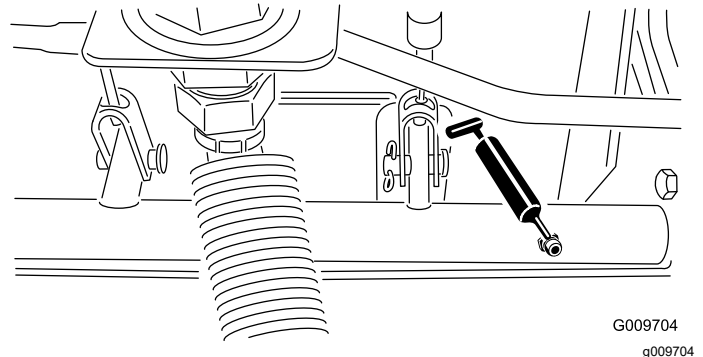

Figure 44
- Brake-shaft pivot bearings (5) as shown in Figure 44